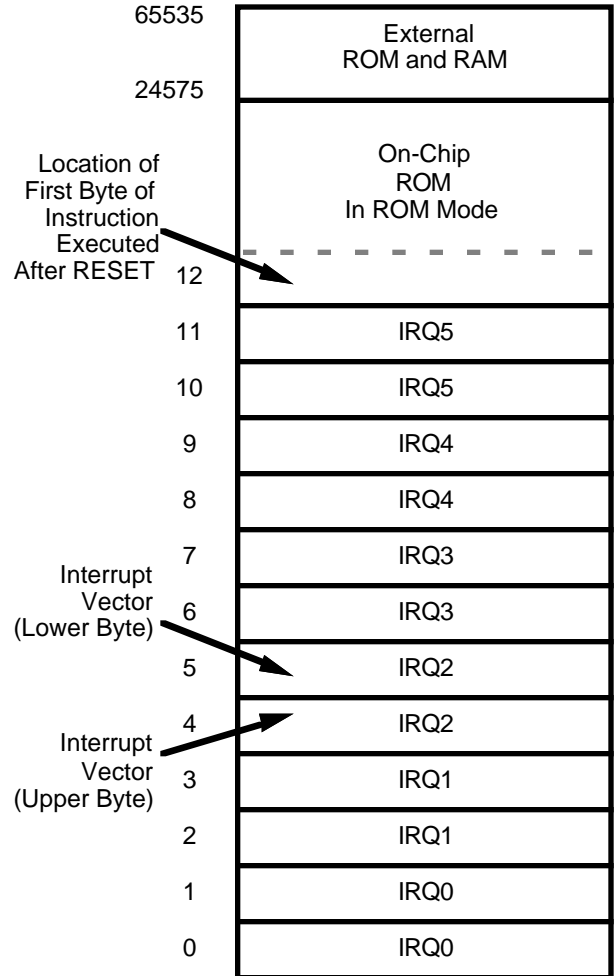

Figure 16. Program Memory Map
**Program Memory.** The Z8 addresses up to 24 KB of internal program memory and 40 KB external memory (Figure 16). The first 12 bytes of program memory are reserved for the interrupt vectors. These locations contain six 16-bit vectors that correspond to the five user interrupts and one DSP interrupt. Byte 12 to byte 24575 consists of on-chip mask-programmed ROM. At addresses 24576 and greater, the Z8 executes external program memory. In ROM-less mode, the Z8 will execute external program memory beginning at byte 12 and continuing through byte 65535.